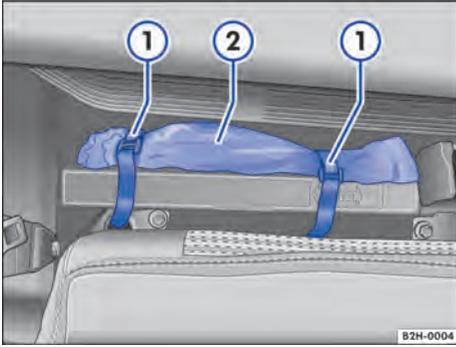

Fig. 156 Behind the rear seat backrest: Jack.
- Undo the Velcro fasteners → Fig. 156 ① and remove the jack ②.